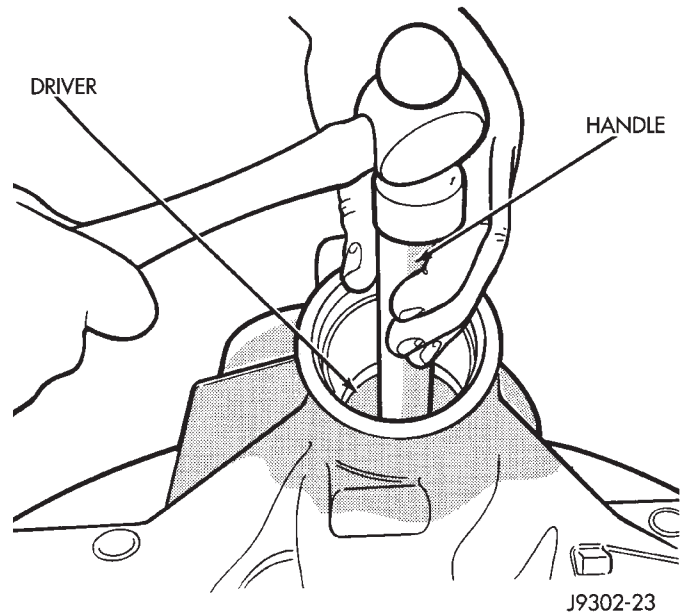

Fig. 37 Rear Bearing Cup Removal
(10) Remove the rear bearing cup from housing (Fig. 37). Use Remover D-149 and Handle C-4171.